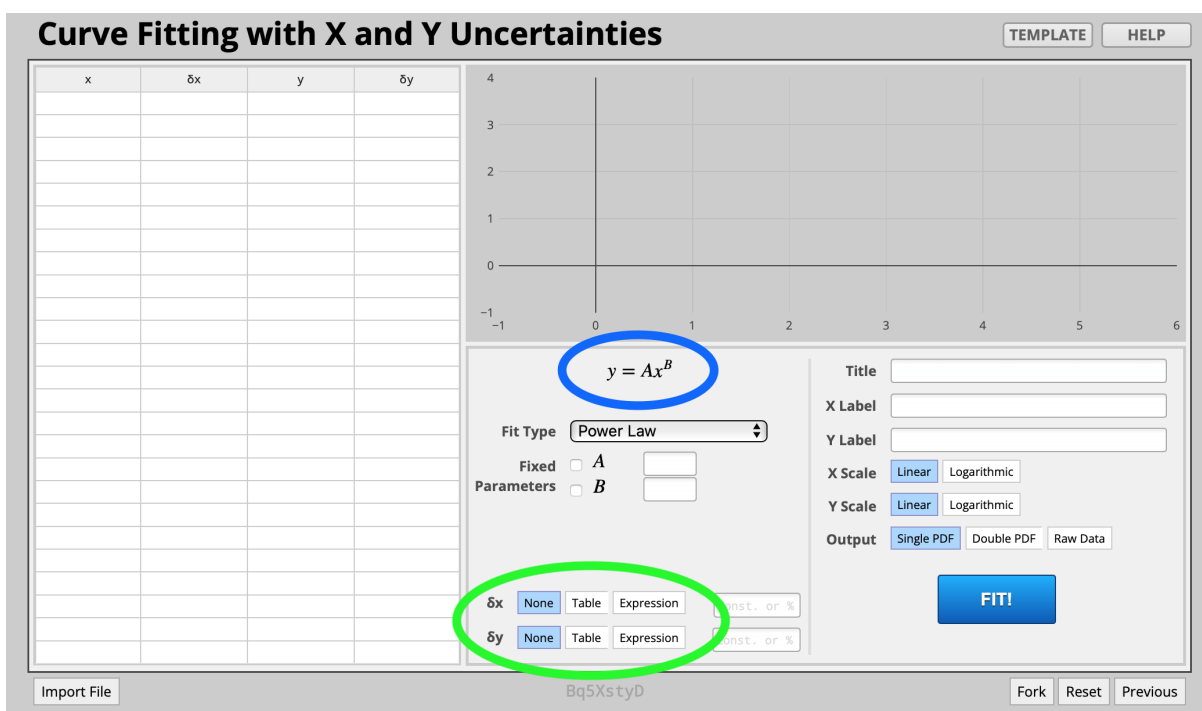

Figure 4: A screenshot of the curve.fit interface.
The fitting program used in this class operates entirely within your browser (website: curve.fit). The interface is shown in Figure 4. On the left is a table for the x and y values and their uncertainties. The uncertainties are represented by error bars on each point (δx = horizontal, δy = vertical). Circled in green are a series of buttons that tell the program where to find the uncertainties. There is a general procedure which can be followed to fit a curve to a dataset:
- Choose a "fit type" that matches the form of the equation from the theory (circled in blue in Figure 4). The "fit" equations are in a generalized form. Some common examples: